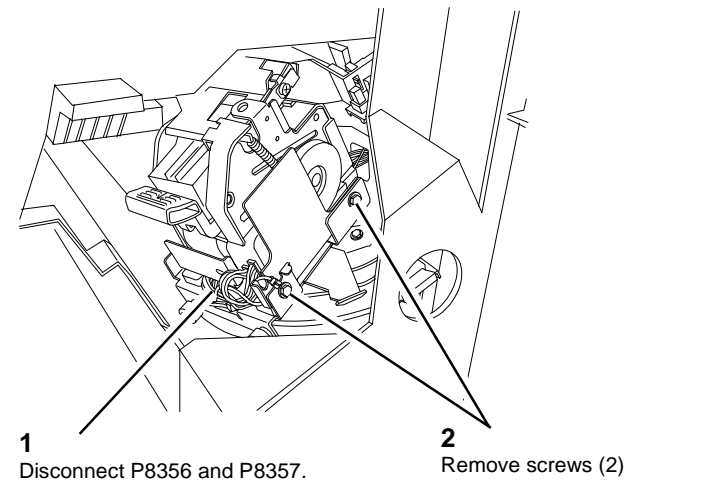

Figure 2 Removing the Stapler Assembly
5. Remove the Stapler Assembly (Figure 2).